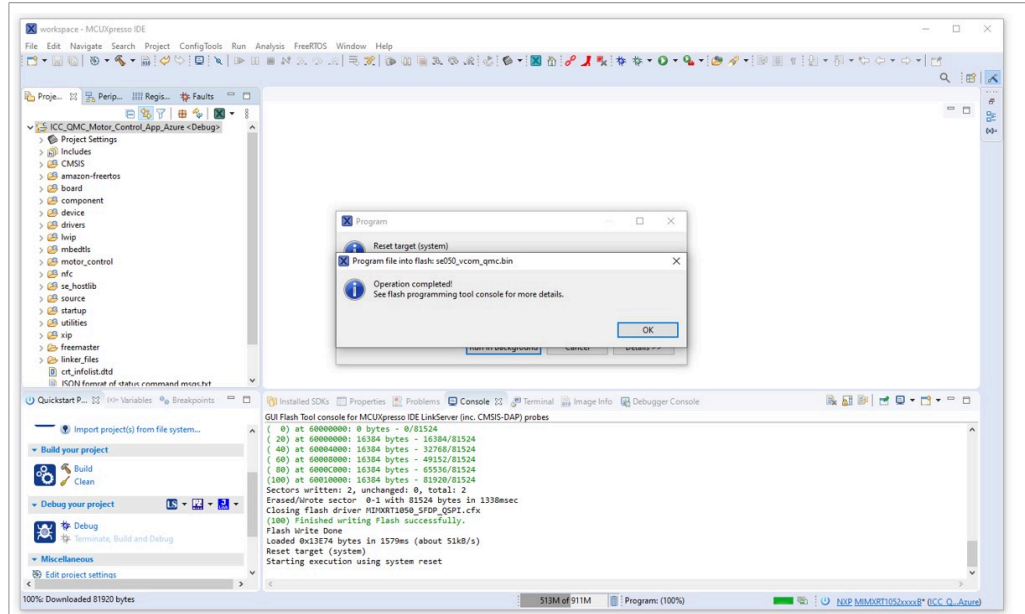

Figure 23. Flashing VCOM binary file completed
- 5. The binary flashing program operation will be started. If it is completed successfully, it should return a success message like the one shown in Figure 23: